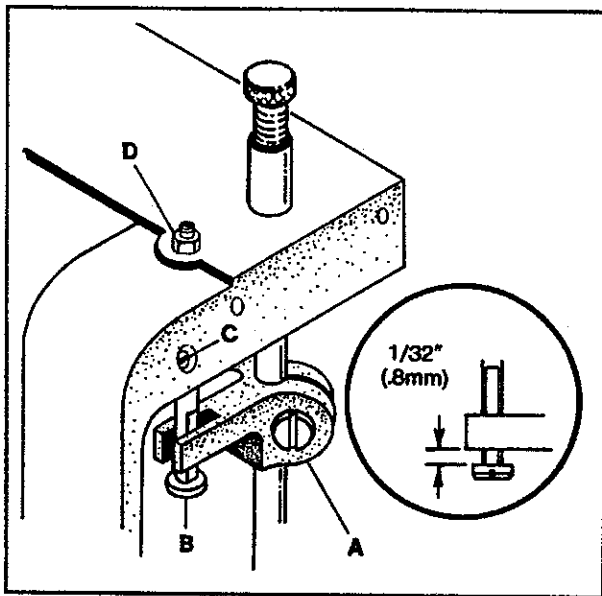

FIG. 36
Turn handwheel in operating direction until the feed dogs are below the throat plate surface. At this time there should be a $1/32"$ (0.8mm) clearance between the bottom of presser bar guide (A, Fig. 36) and presser bar guide stud (B). Loosen screw (C) and turn nut (D) as required. Tighten screw (C). When sewing on extremely lightweight material and/or feed cutting is a problem, the presser foot may be "hung" by raising stud (B) until guide (A) rests on the shoulder of stud (B). This adjustment will raise the presser foot slightly, so only the pressure of the presser foot shoes contact the material.